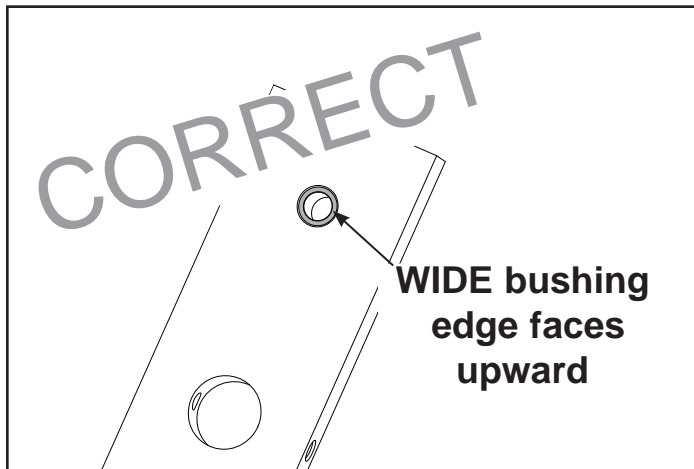

Figure 4A
- B. Carefully align weight plates (removed in step 7M) over guide rods and slowly lower each weight plate. **NOTE:** Install weight plates in reverse order as removed in step 7M. **NOTE:** When installing weight plates, position plates so wide edges of bushings face upward and narrow edges of bushings face downward. See Figures 4A and 4B.